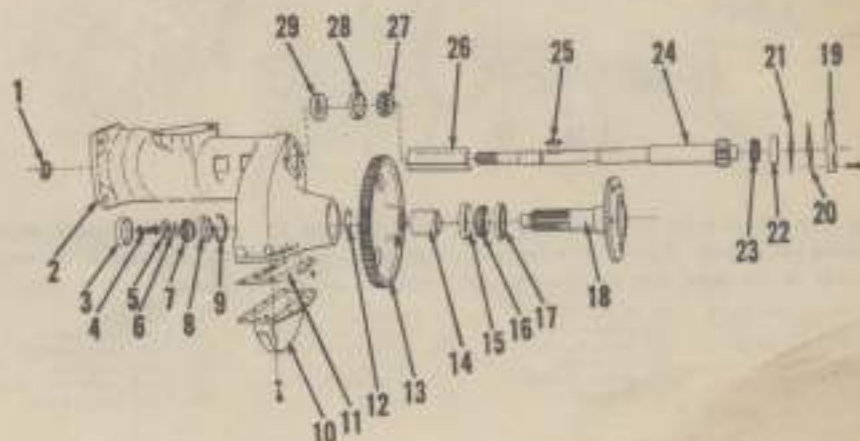
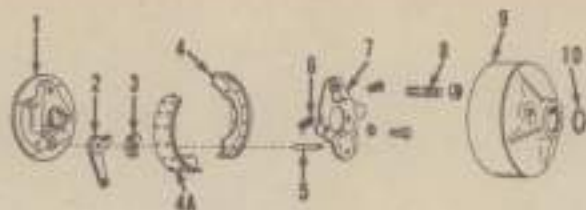

Fig. 131—Exploded view of D-14 and D-15 final drive assembly.
Fig. 135—Exploded view of the D-14 & D-15 brake assembly. Brake adjustment is accomplished by adjusting the length of the brake rods.
**198. ADJUST WHEEL AXLE SHAFT BEARINGS.** Adjust bearings to a free rolling fit with no end play by varying the number of shims (6—Fig. 131) interposed between wheel axle shaft retaining cap screw washer (5) and inner end of shaft.
**199. RENEW WHEEL AXLE BEARINGS AND/OR BULL GEAR.** To renew either the wheel axle shaft (15—Fig. 131), bull gear (13) and/or wheel axle shaft oil seal (17) or bearings (7 & 16), proceed as follows: Drain bull gear housing; then remove housing pan and rear wheel and tire unit. Remove wheel axle shaft bearing dust cap, cap screw, washer (5) and shims (6). Working through bull gear housing opening remove bull gear positioning snap ring (12). Support bull gear and bump wheel axle shaft out of bull gear and housing.
**200. ADJUST BULL PINION BEARINGS.** Remove rear wheel and tire as a unit. Adjust bull pinion shaft bearings to a free rolling fit with zero end play by varying the number of shims (20 & 21—Fig. 131) interposed between bull gear housing (2) and bull pinion bearing retainer (19).
**202. RENEW BULL PINION BEARINGS AND/OR BRAKE DRUM.** To renew either the bull pinion (integral with shaft), pinion bearings, oil seals, and/or brake drum, remove final drive from the tractor as in paragraph 201; then proceed as follows: Using a suitable puller, remove the brake drum; then remove Woodruff key (25—Fig. 131) and brake drum posi-
tioning snap ring (10—Fig. 135). Remove outer bearing retainer and shims (20 & 21—Fig. 131). Then bump bull pinion shaft on inner end and remove from housing.
Brakes, shown in Fig. 135 are of the internal expanding type, bolted to the differential bearing carrier (1). The brake drums are pressed and keyed directly to the bull pinion shafts.
209. **ADJUSTMENT.** Each pedal should have approximately 2 inches free travel before lining contacts the brake drum. To adjust, disconnect the brake rod yoke from the actuating lever (2—Fig. 135). To reduce free travel (tighten brake), turn brake rod yoke further on brake rod. Both brakes should be adjusted equally.